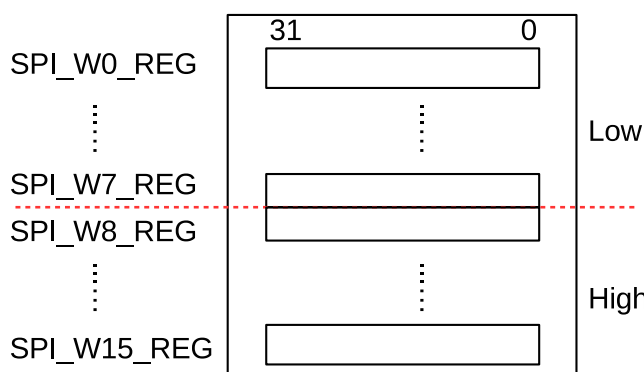

Figure 26-2. Data Buffer Used in CPU-Controlled Transfer
GP-SPI2 provides 16 x 32-bit data buffers, i.e., SPI_W0_REG ~ SPI_W15_REG, see Figure 26-2. CPU-controlled transfer indicates the transfer, in which the data to send is from GP-SPI2 data buffer and the received data is stored to GP-SPI2 data buffer. In such transfer, every single transaction needs to be triggered by the CPU, after its related registers are configured. For such reason, the CPU-controlled transfer is always single transfers
- **SPI Buffer:** `SPI_W0_REG ~ SPI_W15_REG`, see Figure 26-2. The data transferred in CPU-controlled mode is prepared in this buffer.